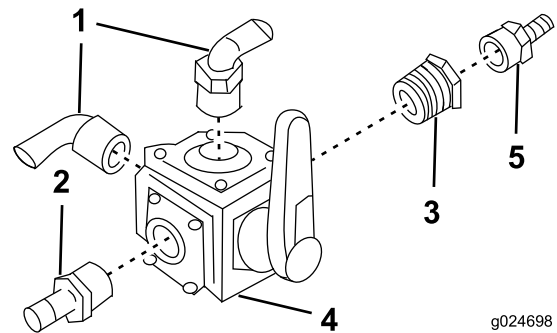

Figure 14
1. Assemble the four-way valve (Figure 14).
Note: The orientation of the hosebarb fittings is important and should be set to match Figure 14.